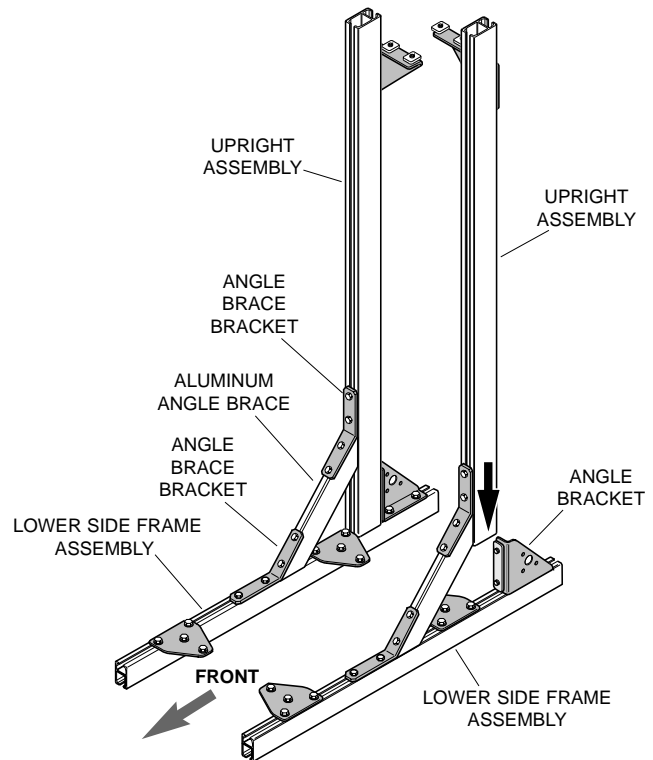

Figure 5.
5. Assemble one upright to corresponding lower side frame assembly by sliding onto angle brace bracket and triangular angle bracket. Wrench tighten locking plate bolts on angle bracket. Position aluminum angle brace so that ends are tight against lower side member and upright. Check to make sure upright is square with lower side member and wrench tighten all bolts (Fig. 5). Repeat for other side frame.